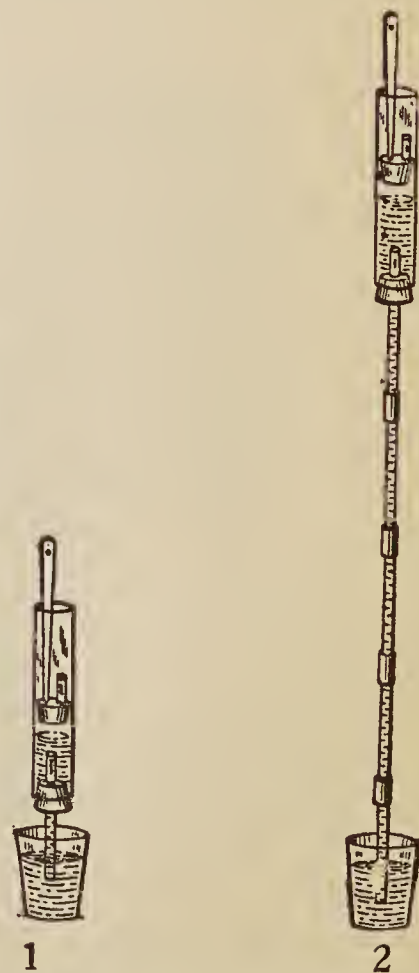

Fig. 64.—The Lift Pump.
Arrange the apparatus as shown in (1) Fig. 64. Soap the plunger, place the lower end of the narrow tube in a glass of water, and move the plunger up and down slowly.
Attach three or four narrow tubes below the pump barrel to make the suction pipe longer, (2) Fig. 64, and repeat the experiment.